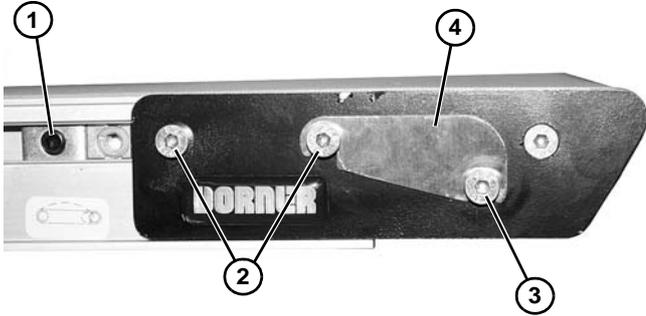
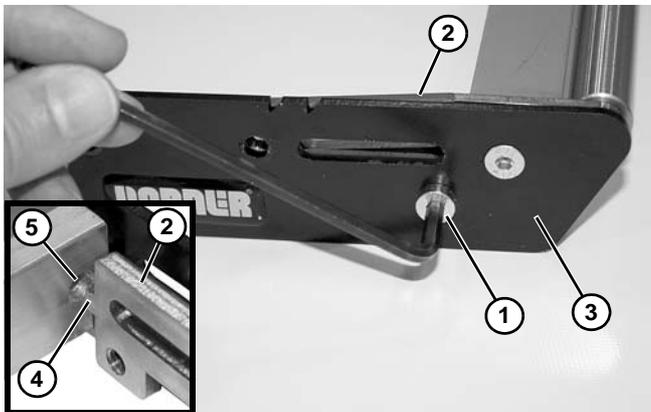

Figure 64
Figure 65
1. On both sides of conveyor, loosen cam fastening screw (Figure 64, item 1) (if equipped) and slide cam assemblies toward the center of the conveyor.
2. On both sides of conveyor, loosen fastening screws (Figure 64, item 2) to remove belt tension. Remove belt from end of conveyor.
3. On both sides of conveyor, loosen fastening screw (Figure 64, item 3) and remove dust cover (Figure 64, item 4) (if equipped).
4. Remove nose bar tail from the conveyor and place on an open work surface. On one side of nose bar tail, remove two fastening screws (Figure 64, item 2).
5. Remove lower screw (Figure 65, item 1) and remove tail nut bar (Figure 65, item 2) and side plate (Figure 65, item 3).
During reassembly, make certain that the tail nut bar nipple (Figure 65, item 4) is inserted into the support bar hole (Figure 65, item 5).
10. Assemble and install headplate in reverse order of removal. Use a 4 mm hex-key wrench to tighten lower screw (Figure 65, item 1) to 3.4 Nm. Leave two fastening screws (Figure 64, item 2) loose for belt tensioning.